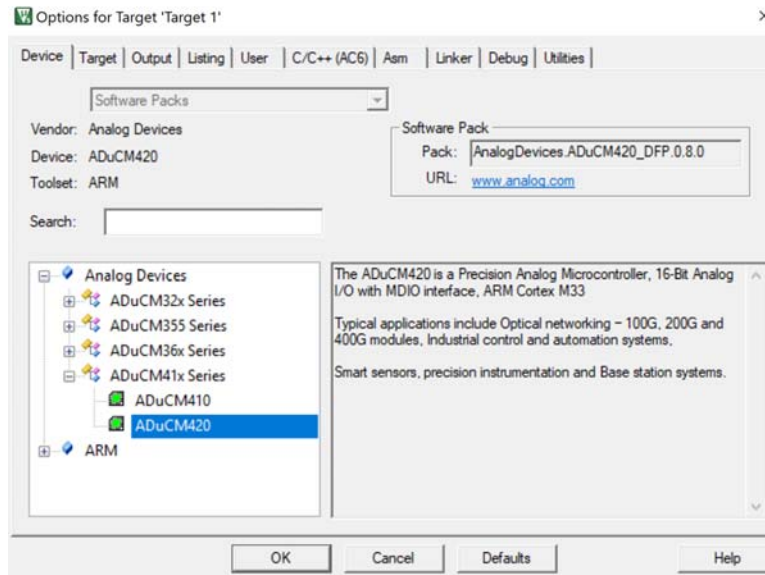

Figure 8. ADuCM420 Device in Keil μVision5
3. With the ADuCM420 CMSIS pack installed, the ADuCM420 device is supported by the Keil μVision5 IDE. The **ADuCM420** appears in the **Device** tab of the Keil window, as shown in Figure 8.